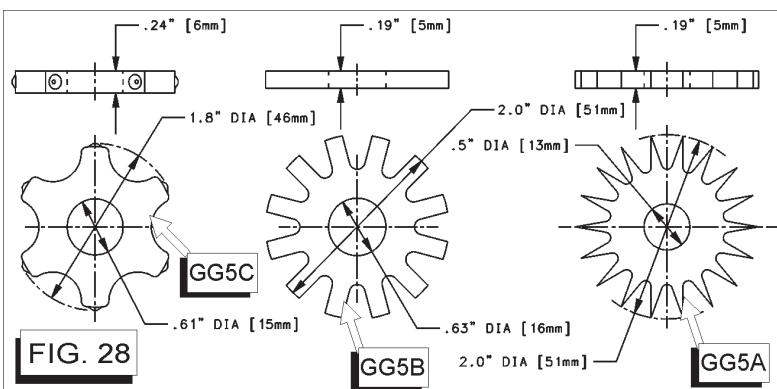
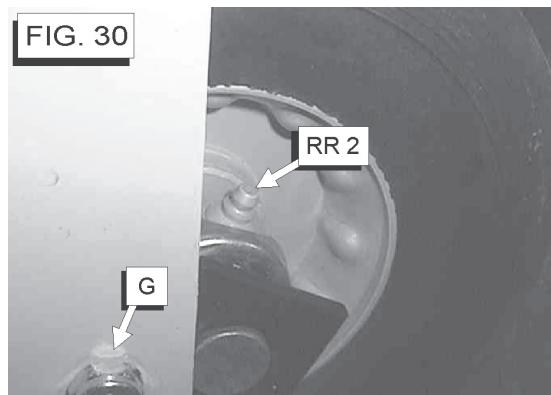

FIG. 28
FIG. 30
| G.  | Axle Stop Bolt [FIG. 11, FIG. 30].  | GG5A. | Star Wheel [FIG. 28].  |
| H.  | Electrical ON / OFF Switch(Electric Model Only) [FIG. 6].   | GG5B. | Beam Wheel [FIG. 28].  |
| I.  | -----   | GG5C. | Tungsten Carbide Wheel [FIG. 28].                                |
| U.  | Wooden Wedges [FIG. 14, FIG. 15, FIG. 16].  | RR2.  | Rear Wheels [FIG. 30].   |
- G. Boulons de butée de l'axe [FIG. 11, FIG. 30]
- GG5A. Disque en étoile [FIG. 28].
- GG5B. Disque à rayons [FIG. 28].
- GG5C. Disque au carbure de tungstène [FIG. 28].